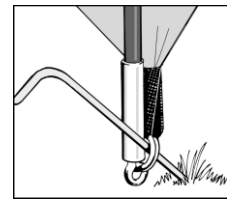

Figure 2.
- Peg down main pole through metal rings using pin pegs. (See figure 2)
2. Peg the corners of the tent through the metal rings using pin-pegs. It is important to drive the peg into the ground at a 45 degree angle to obtain the best grip. (See Figure 2).